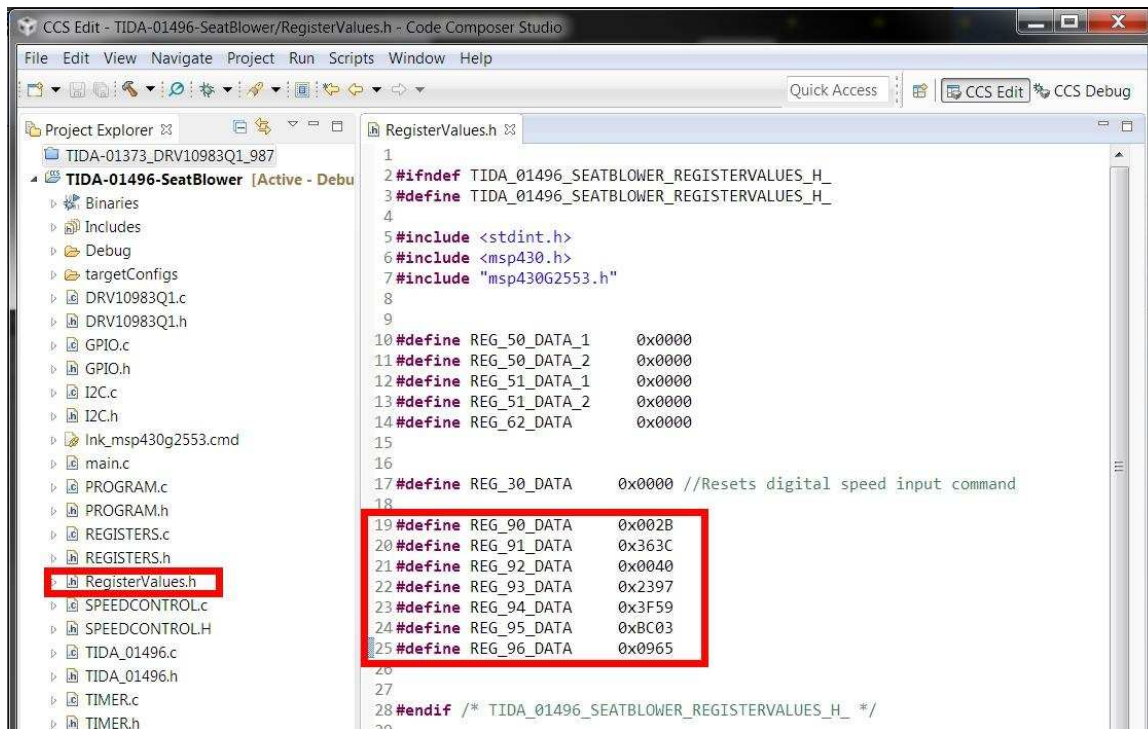

Figure 10. Adding Motor Configuration Settings into RegisterValues.h
4. Open the RegisterValues.h header file and place the CONFIG values in their corresponding registers as shown in Figure 10.